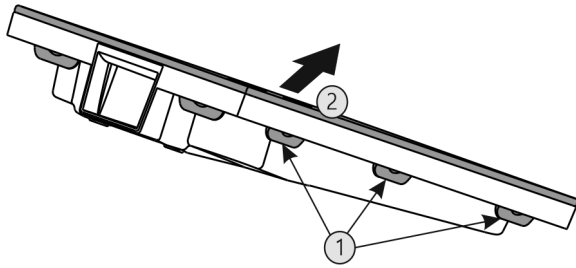

Fig. 49
- ▶ Press all lugs Fig. 49 (1) in succession and remove the lid Fig. 49 (2).